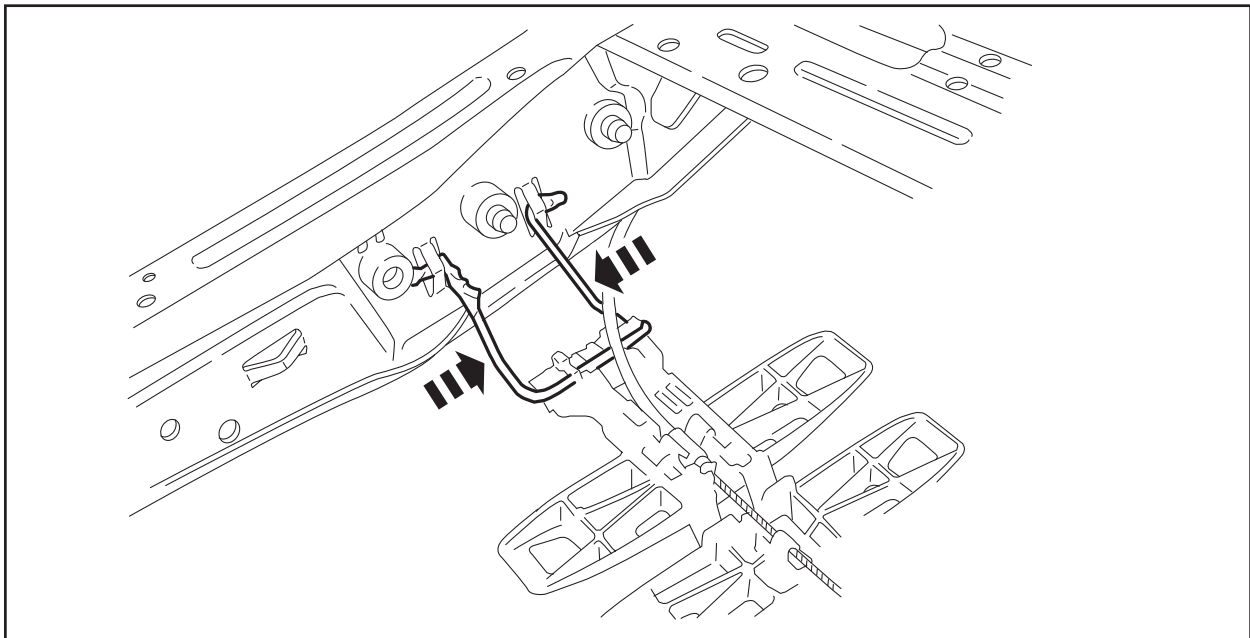

FIGURE 16
26. Remove the lumbar assembly by squeezing the sides of the clips together. See Figure 16.